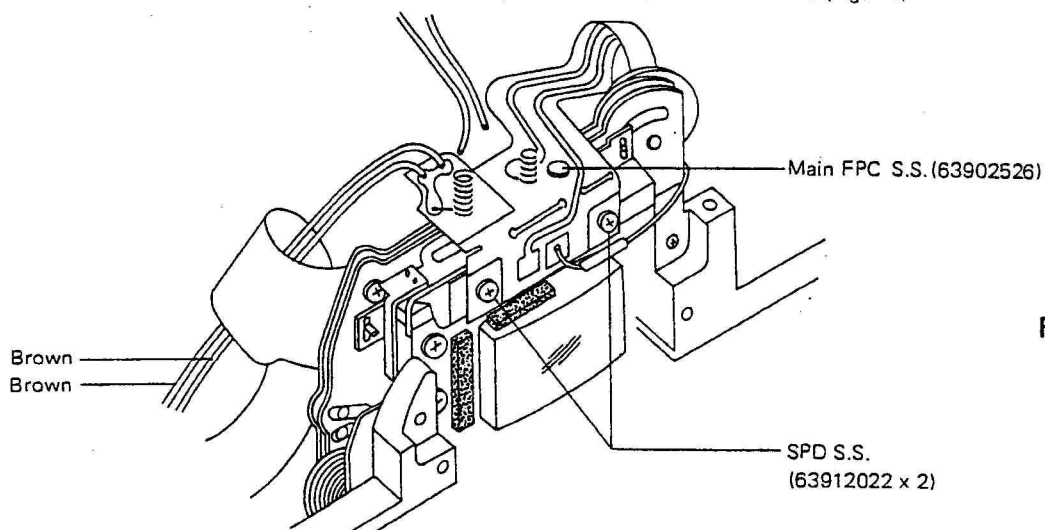
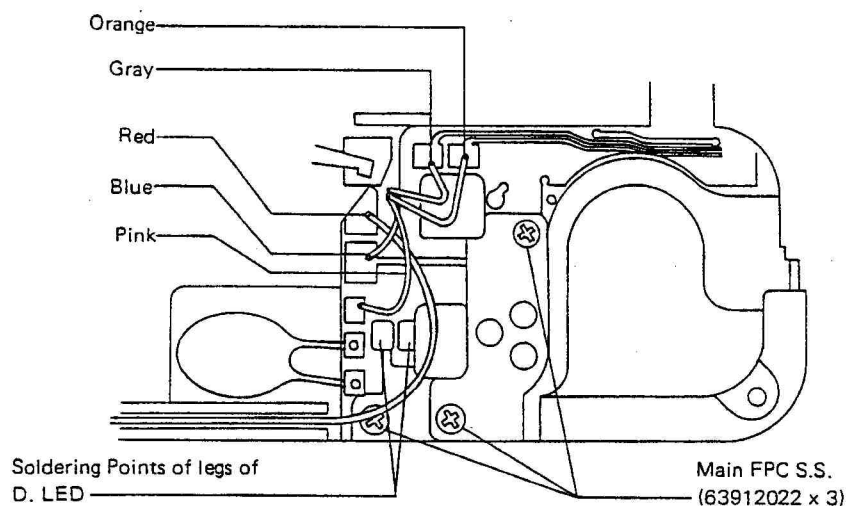

Fig. 4
Fig. 5
- a) Unsolder 2 brown lead wires on top (fig. 4) 5 lead wires (red, orange, pink, blue, gray), connecting legs from Data LED and main FPC S.S.(63912022x3) at the bottom. (fig. 5)